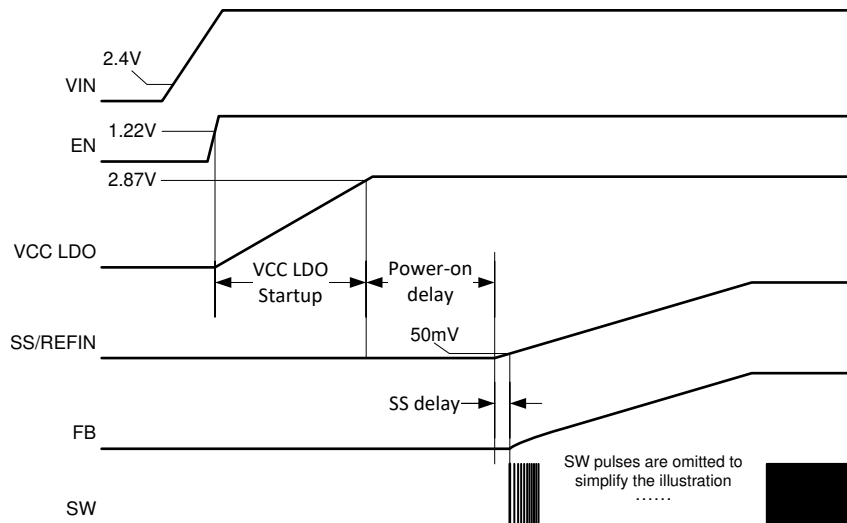

图 7-1. Internal Power-up Sequence Using Internal LDO
**图 7-1** shows an example where the VIN UVLO rising threshold is satisfied earlier than the EN rising threshold. In this scenario, the VCC UVLO rising threshold becomes the gating signal to start the internal power-up sequence, and the sequence between VIN and EN does not matter.